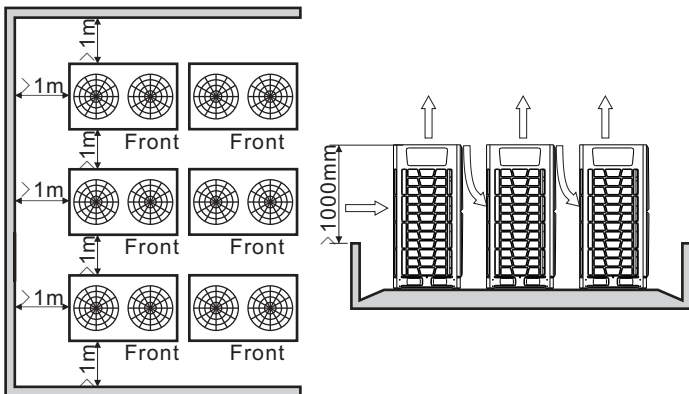

Fig. 3.13 More than 2 rows
5) When outdoor units are higher than surrounding barriers and they will be arranged in more than 2 rows, please see Fig.3.13.